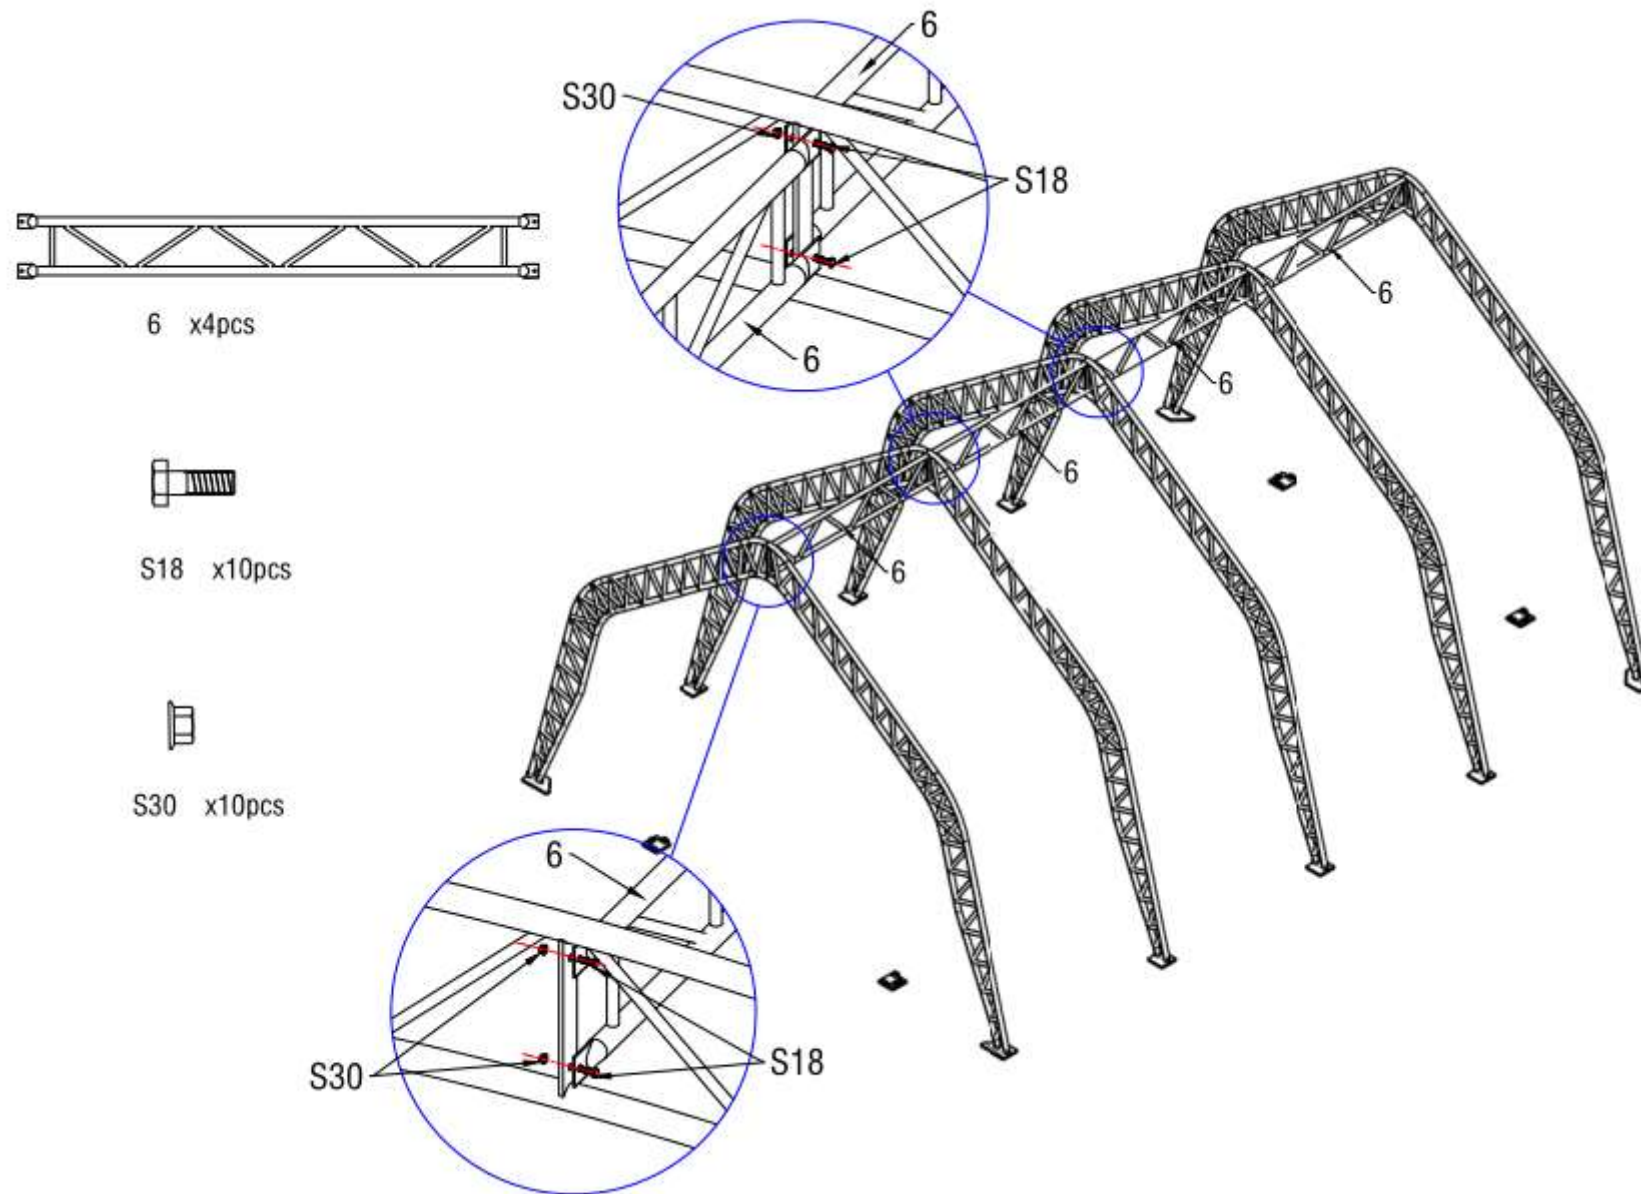

Figure 7
4. Above Figure 7 shown when finish installing all the arches into the base plates, use Double Trussed Purlins (No.6) to connect them by Screw M10x30 (No.S18) . Then use Purlins(No.7) to connect the arches by Screw M10X30 (No.18). In this turn, fix all other purlins. Finished stretch frame as below(Figure 8)